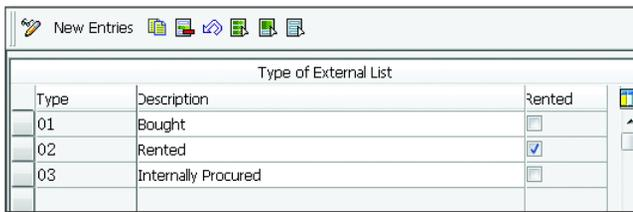

Figure 5.73 List Type
1. Define the list type by navigating to SPRO • CUSTOMER RELATIONSHIP MANAGEMENT • MARKETING • EXTERNAL LIST MANAGEMENT • DEFINE LIST TYPE. You can mark the list type as RENTED, as shown in Figure 5.73.